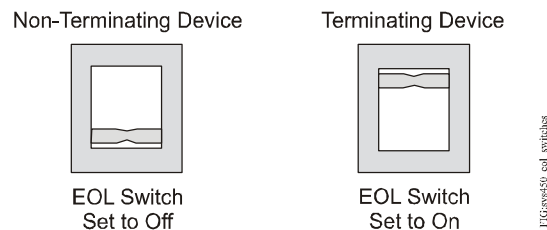

Figure 5: EOL Switch Positions for Terminating and Non-Terminating Devices
2. If the System 450 control module is a terminating device on the Modbus trunk, position the EOL switch to On (up). If the field controller is not a terminating device on the trunk, position the EOL switch to Off (down) as shown in Figure 5.